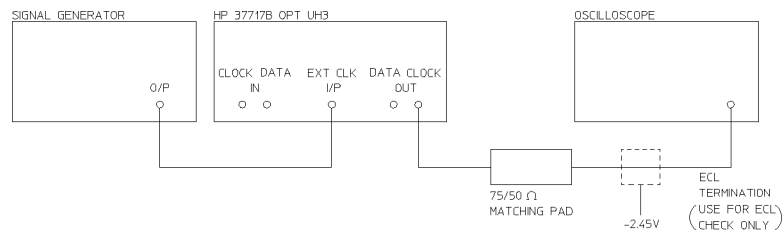

Figure 3-56
2. Connect up the equipment as shown in Figure 3-56.